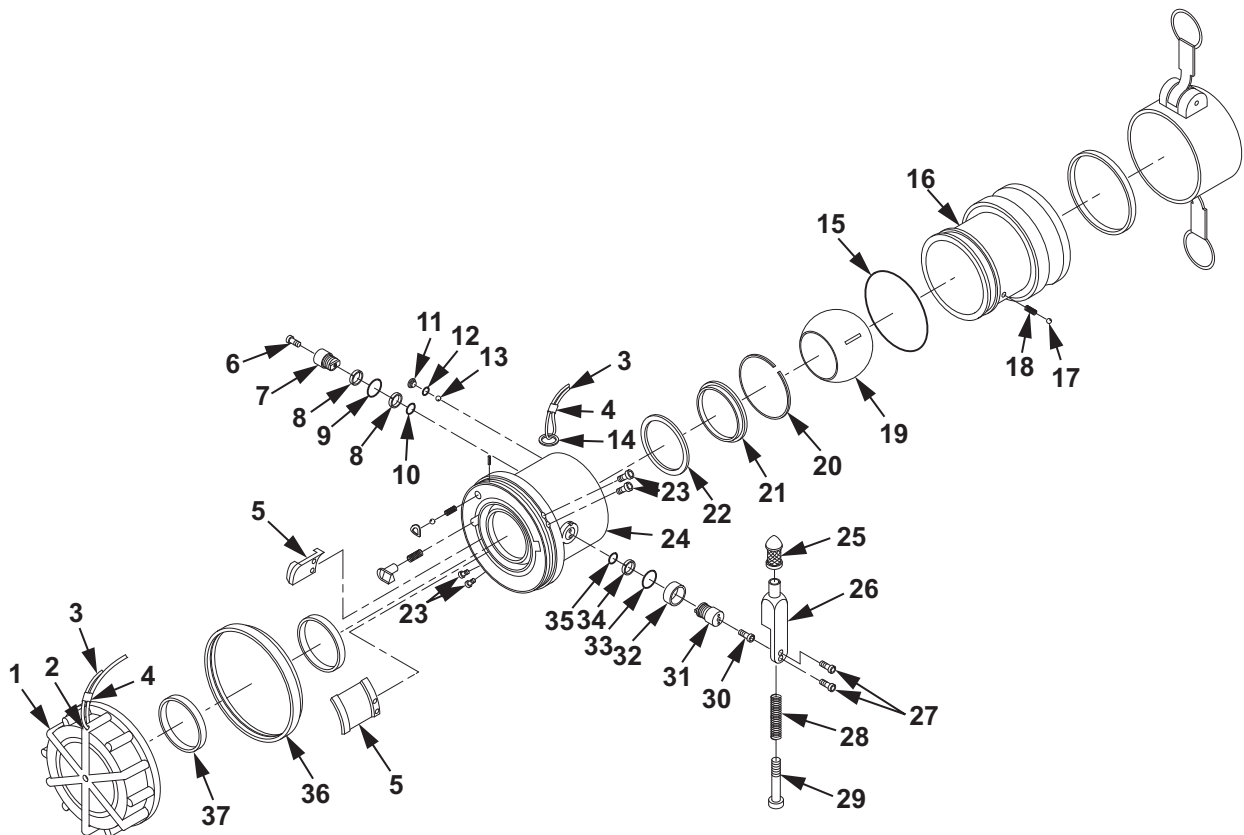

Figure 1. 4 In. Male Camlock X 3 In. Valved Dry-Break Adapter Disassembly.
Ensure all 41 ball bearings (Figure 1, Item 13) are accounted for during disassembly.
5. Hold coupling (Figure 1, Item 24) with screw hole toward cleaning cloth and rotate inlet fitting to allow ball bearings (Figure 1, Item 24) to fall onto the cleaning cloth.
When removing inlet adapter (Figure 1, Item 16), retain ball bearing (Figure 1, Item 17) and spring (Figure 1, Item 18).
6. Remove inlet adapter (Figure 1, Item 16) from coupling (Figure 1, Item 24).
7. Remove O-ring (Figure 1, Item 15) from outer groove of inlet adapter (Figure 1, Item 16).
8. Discard O-ring (Figure 1, Item 15).
9. Remove screws (Figure 1, Item 27) from control arm (Figure 1, Item 26).
10. Remove control arm (Figure 1, Item 26) from coupling (Figure 1, Item 24).
If it is necessary to disassemble control arm (Figure 1, Item 26), perform the following steps.
- a. Remove screw (Figure 1, Item 29) from control arm (Figure 1, Item 26).
- b. Remove spring (Figure 1, Item 28) from control arm (Figure 1, Item 26).
- c. Remove knob (Figure 1, Item 25) from control arm (Figure 1, Item 26).
11. Remove screw (Figure 1 item 30) from upper shaft (Figure 1, Item 31).
12. Remove screw (Figure 1 item 6) from lower shaft (Figure 1, Item 7).
13. Using one screw (Figure 1, Item 27), screw into end of upper shaft (Figure 1, Item 31) and remove upper shaft (Figure 1, Item 31) from coupling (Figure 1, Item 24).
14. Remove O-rings (Figure 1, Item 33, 35) from upper shaft (Figure 1, Item 31).
15. Discard O-rings (Figure 1, Item 33, 35).
16. Remove bushings (Figure 1, Item 32, 34) from upper shaft (Figure 1, Item 31).
17. Discard bushings (Figure 1, Item 32, 34).
18. Rotate ball valve (Figure 1, Item 19) to the open position and remove from inside coupling (Figure 1, Item 24).
19. Push out lower shaft (Figure 1, Item 7) from inside coupling (Figure 1, Item 24).
20. Remove O-rings (Figure 1, Item 9, 10) from lower shaft (Figure 1, Item 7).
21. Discard O-rings (Figure 1, Item 9, 10).
22. Remove bushings (Figure 1, Item 8) from lower shaft (Figure 1, Item 7).
23. Discard bushings (Figure 1, Item 8).
24. Remove retaining ring (Figure 1, Item 20) from coupling (Figure 1, Item 24).
25. Remove seal retainer (Figure 1, Item 21) from coupling (Figure 1, Item 24).
26. Remove seal (Figure 1, Item 22) from coupling (Figure 1, Item 24).
27. Discard seal (Figure 1, Item 22).
If it is necessary to replace dust cap (Figure 1, Item 1), perform the following removal steps.